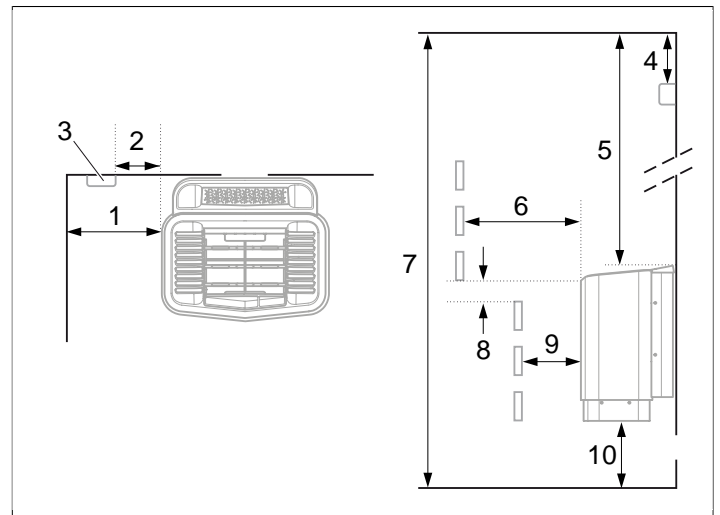
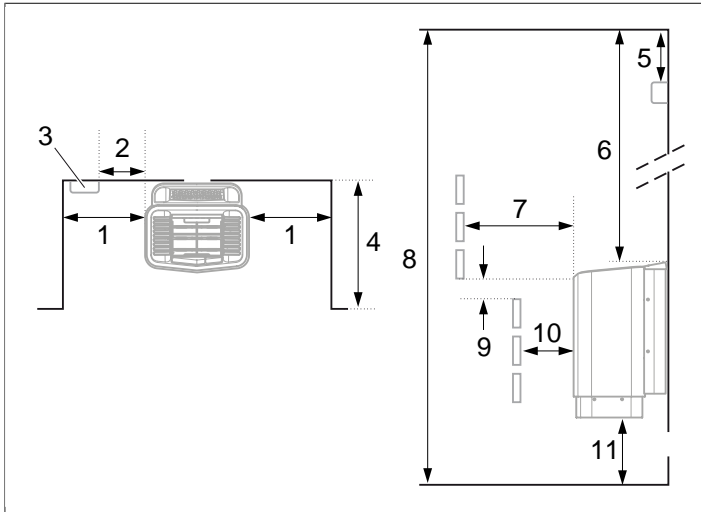

Figure 3: Positioning the heater - normal installation
Figure 5: Positioning the heater - recess installation
- Plan where to position the sensor (see **Figure 3**, Page 2 and **Figure 5**, Page 3).
- on the same wall as the door (or the side wall if very close to the door wall). The heater can also be positioned in a recess (see **Figure 5**, Page 3).
- at a safe distance from the floor, side walls and interior fittings (see **Figure 3**, Page 2).
Position the sensor according to the diagram (see **Figure 3**, Page 2).
1. Position the heater at a safe distance from the floor, side walls and interior fittings (see **Figure 5**, Page 3).
2. Position the sensor according to the diagram (see **Figure 5**, Page 3).